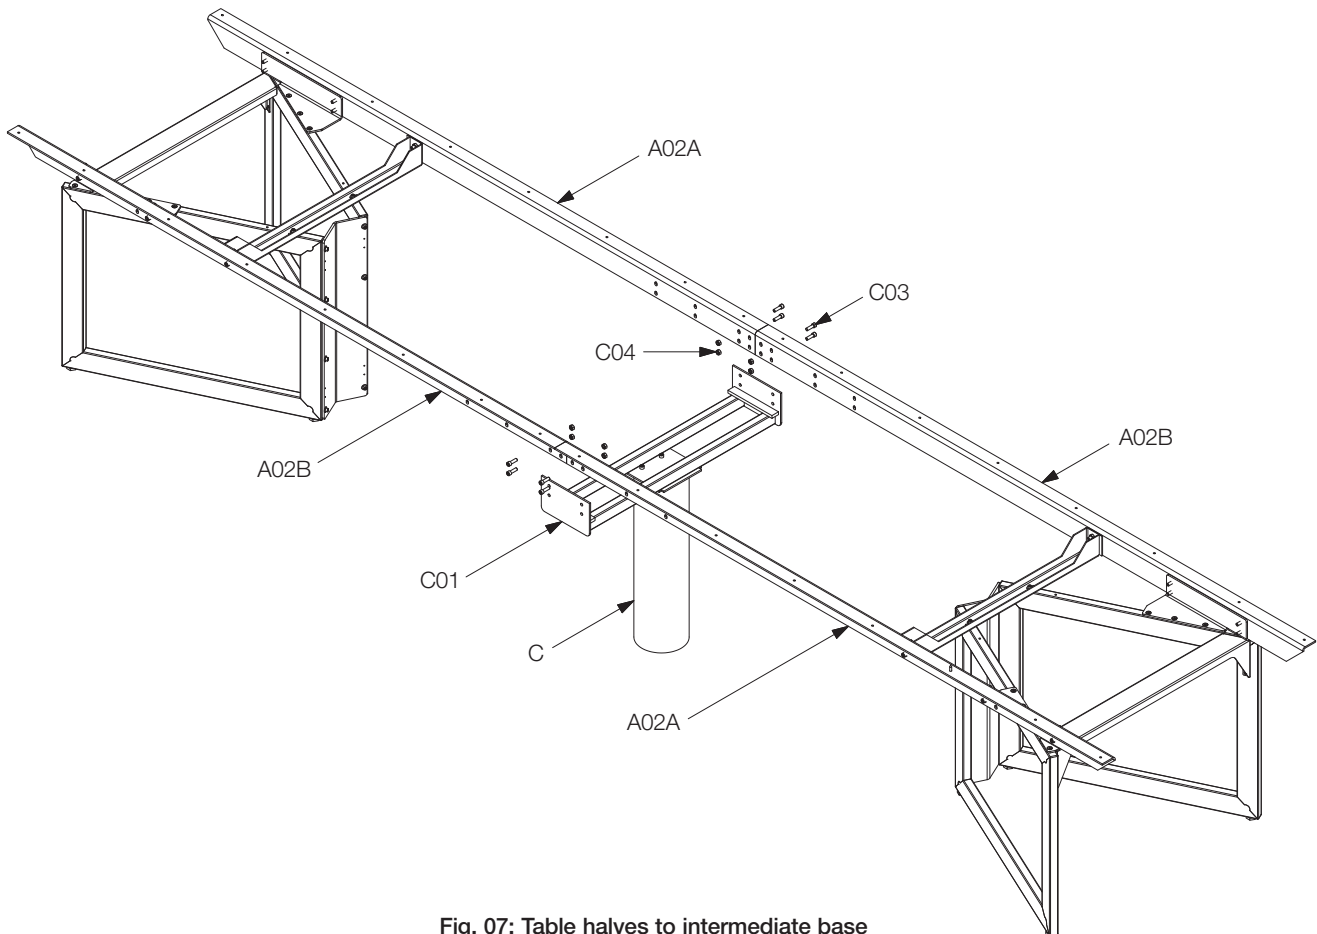

Fig. 07: Table halves to intermediate base
- 3.2.4. Orient the 2 halves end-to-end with the bases on the outside and the open (flat) ends of the rails mated to each other. (See Fig. 07)
- 3.2.5. Loosely assemble intermediate base (C) via mount (C01) at the joining ends of the rail pairs using fastener (C03) and hex nut (C04), 8 places. (See Fig. 07)